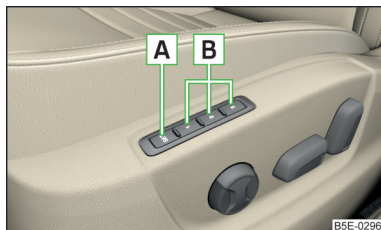

Fig. 71
The memory function for the driver's seat provides the option to store the positions of the driver's seat and the external mirrors. Each of the three memory buttons **B** » Fig. 71 can be assigned a set position.
- › Press the button **SET** **A** » Fig. 71.
- › Press the required memory button **B** » Fig. 71.
- › Tap the desired memory button **B** » Fig. 71 when the ignition is switched off and the driver's door is opened.
- › Press and hold any memory button **B** » Fig. 71 on page 89. After the seat has assumed the position stored under this button, at the same time press the button **Ⓜ** on the remote control key within 10 seconds.
- › Press and hold the **(SET)** button **[A]** » Fig. 71 on page 89. At the same time, press the button **[B]** on the remote control key within 10 seconds.